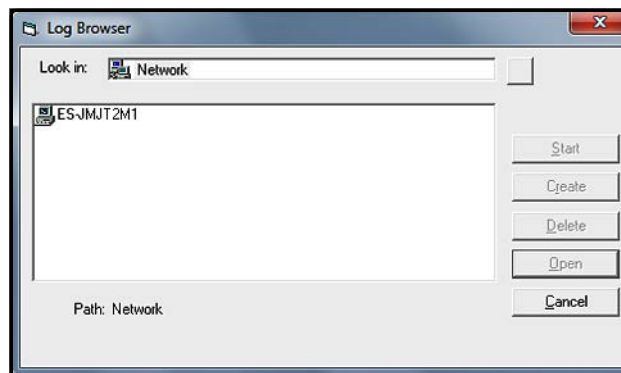

Figure 62: Computer Selection
- Open the "Output" menu (see Figure 51 on page 39), and click on "Logging" and then on the "Log Browser" option to open the dialog box shown in Figure 62 below.